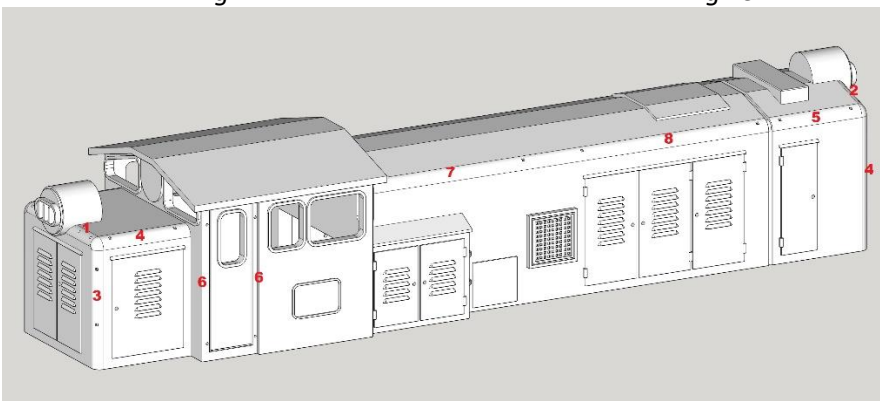

Fig 16
- Find the corresponding number of the handrail from the handrail identification diagram (fig 16).